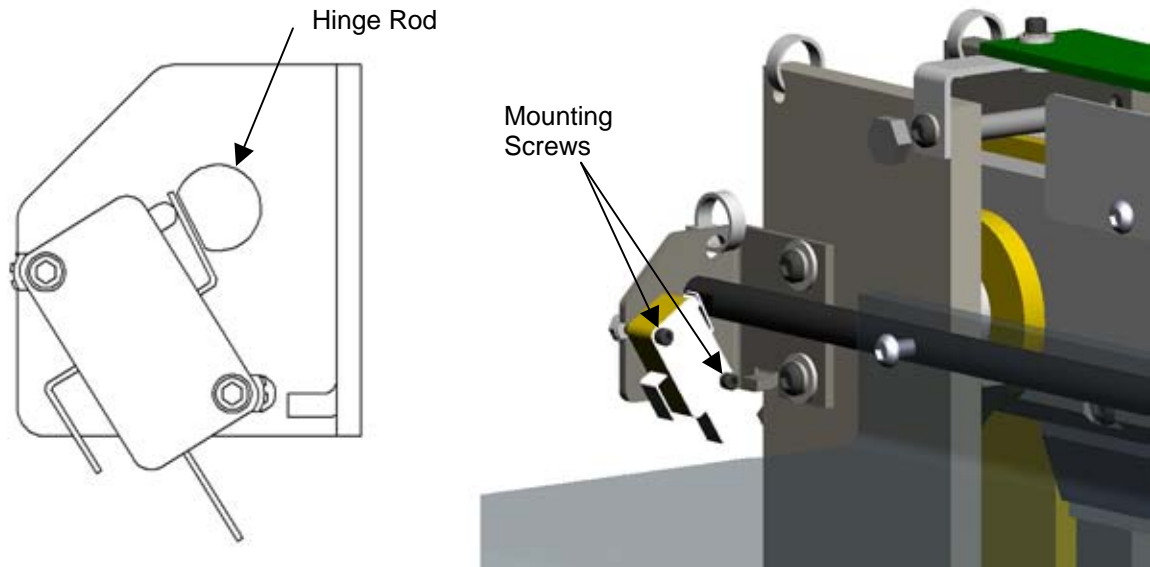

Figure 15
3. Loosen (2) screws and nuts that mount the front guard switch as seen in Figure 15. Make sure the front guard is lowered and slide the switch forward or backward until the actuator lines up with the flat on the hinge rod (Figure 15). Leave a very slight gap (about the thickness of a strip of paper) between the actuator and flat.